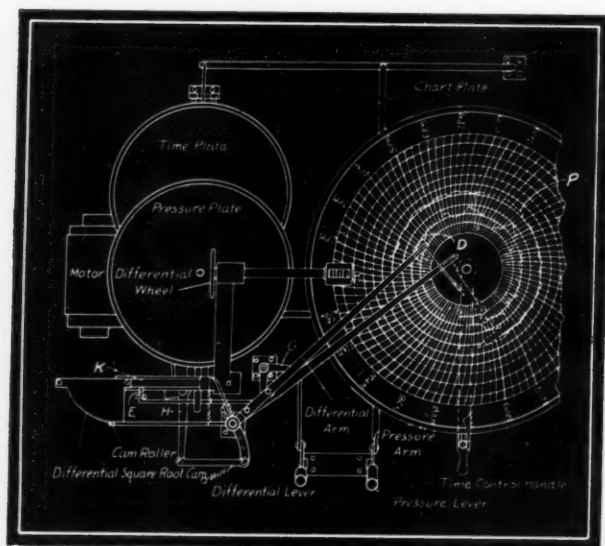
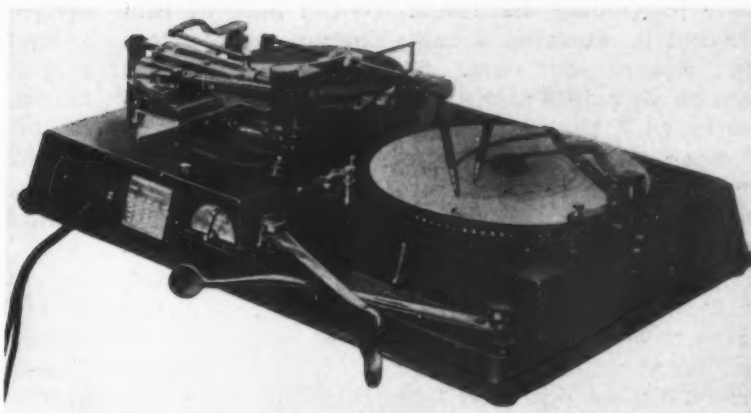
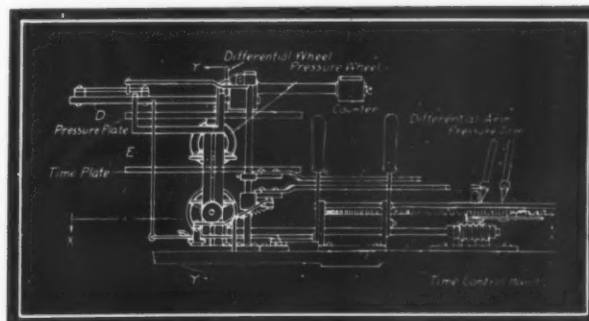

Fig. 3—Differential wheel is shiftable to accommodate varying factors in the equation
Fig. 2—Conveniently placed handles permit the operator to follow the lines of a recording chart as it comes from the field
Fig. 4—Time control handle shown stops the unit after a predetermined period
The exact operation of this computing device starts with the original chart and following pens as shown in *Figs. 2 and 3*. (Although the relative positions of the parts are not the same in the photographs and drawings, and some minor variations have been introduced into the photographed machine for ease of operation, the principle of operation is the same.) Rotation of the chart plate, *Fig. 4*, is controlled by the variable speed motor through a geared connection.
Such a driving relation is maintained by arranging the shaft of the time plate, *A* in *Fig. 5* (a view through *Y-Y* of *Fig. 4*) to co-operate with splines *B* of the motor drive worm so that bracket *C* can be shifted to any point along shaft
A. The other shiftable element is the differential wheel of *Figs. 3 and 4*.
Tracing this movement first with the pressure line, *P* in *Fig. 3*, the pressure lever controls a rocker arm, *Fig. 6*, (a view through *X-X* of *Fig. 4*), connected through linkages with movable bracket *C* on which is mounted the time
A refinement in the design of the machine is the provision for automatically limiting the time period for which the value of the extension is to be computed, whether for the duration of the entire chart or for any portion of it. The manner in which this is accomplished is as follows: A time control handle, Fig. 4, bearing on the shaft of the chart plate, extends to a point beyond the rim of the plate. This handle is composed of spring steel, and tends to spring toward the bottom of this chart plate which has a pendent circular flange that is divided into a plurality of teeth with which a lug on the handle is engageable to maintain a given setting.